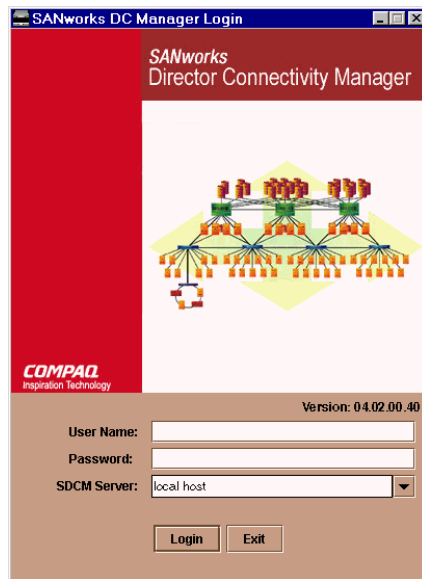

Figure 2-10: SDCM Login Dialog Box
5. Simultaneously press the **Ctrl, Alt, + Delete** keys to display the Logon Information dialog box. Type a user name and password (obtained in MAP 0000: Start MAP on page 2-2) and click OK. The SDCM application starts and the SDCM Login dialog box (Figure 2-10) displays.